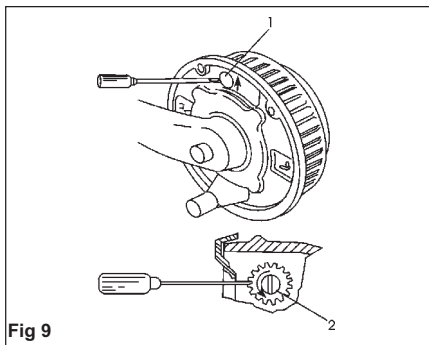

Fig 9
embossed on the backplate until there is resistance in the wheel rotation (Fig. 9).
- Slacken off the starwheel adjuster until the road wheel turns freely in the forward direction (Fig. 9).